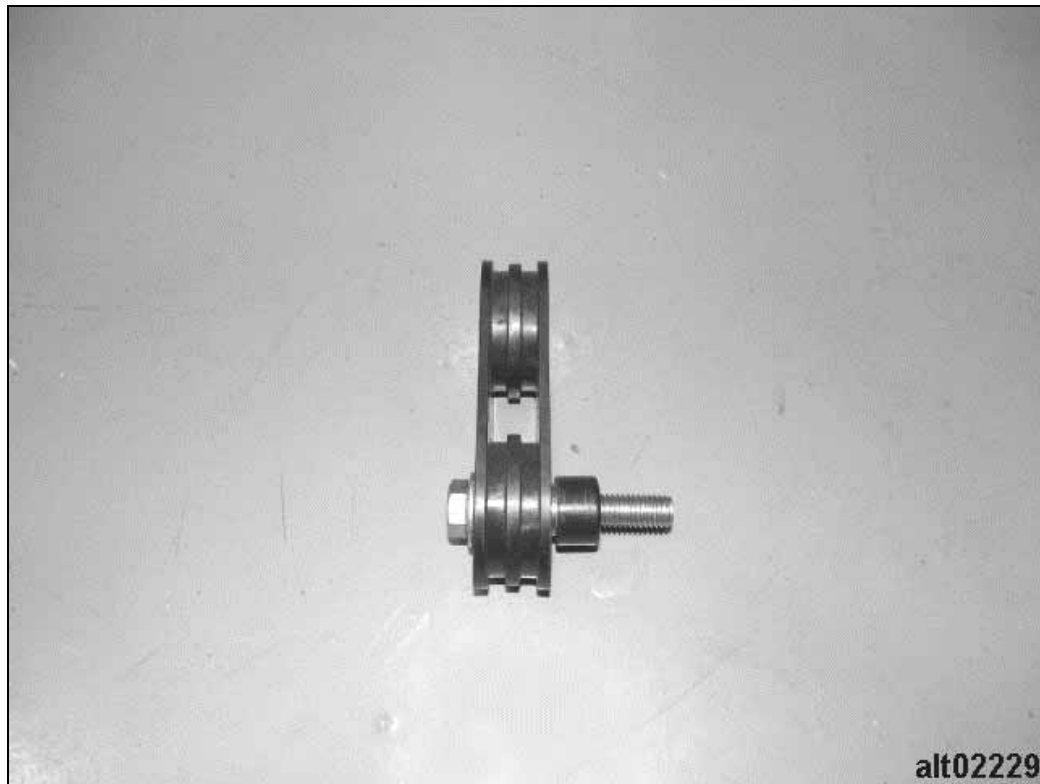

*Figure 5. Bracket installed on lower parallel arm for mounting chain tensioner*
1. Position chain tensioning bracket on right side of lower parallel arm as shown in Figure 5. Secure using provided 1/2 x 1-1/4 in. bolt with a serrated flange nut.